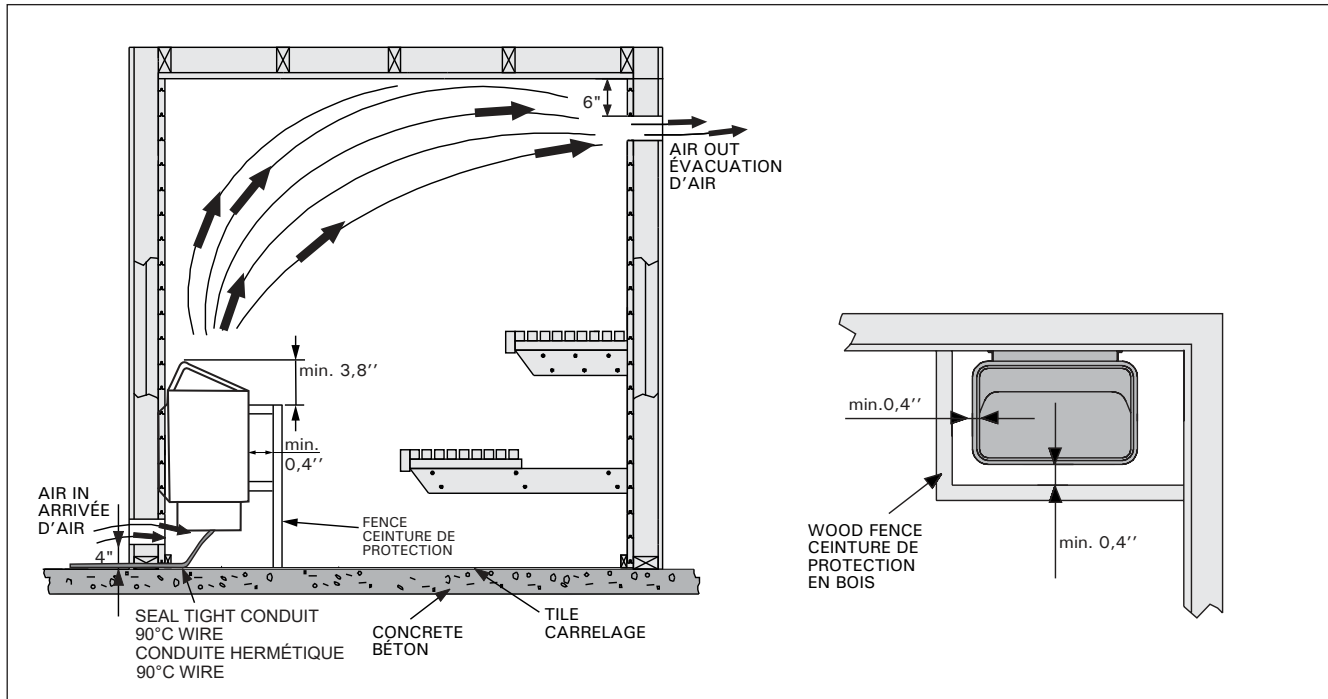

Figure 4. Ventilation of the sauna room and min. clearances from fence
Should be provided by lower vent close to heater, 4" (100 mm) from floor, and upper vent on opposite wall (if possible) 6" (150 mm) from ceiling or as low as 24" (600 mm) from floor. Vents should be adjustable and should allow air to change 5 times per hour. Sauna shall be provided with intended ventilation as required per the local code authorities. See figure 4.
The minimum safety distances are described in figure 4 and 5.
It is necessary for safety and should be constructed of softwood to match sauna interior. See figures 4 and 5 for clearances from sauna heater. Fence should be attached to wall and should not be placed higher than top of heater below rock line.
1. Remove heater from carton and place in proper location in sauna room. Observe proper clearances as per figures 4 and 5. After final hookup, electrical contractor should secure heater to the floor or on the wall with required screws or bolts.